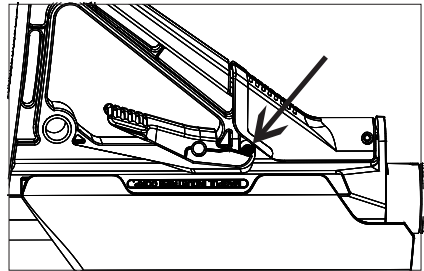

Figure 33 - CTR Release Lever Crosspin
4. On the opposite end of the lever you will see a crosspin that extends out from each side of the mechanism. When you press on the release lever, the cross pin moves upward. (Fig 33)